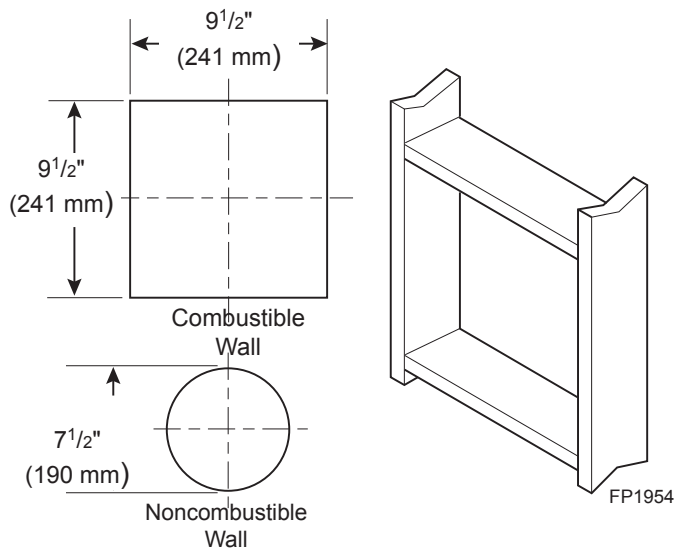

Figure 26 -
Combustible Exterior Walls: Cut a 9½"H x 9½"W square hole through the exterior wall frame. *Figure 26*
2. The center of the hole should line up with the center line of the horizontal rigid vent pipe end. Allow ¼" minimum rise per foot. *Figure 26*